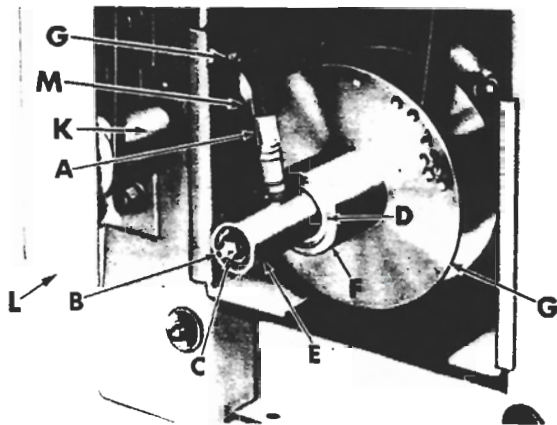

Figure 57
8. Tighten four nuts (G, fig. 57).
11. Place power feed belt on motor pulley, and then on pulley (M).
12. Position power feed pulley assembly (K) until both belts are properly tensioned, then tighten screws on back of guard (L).